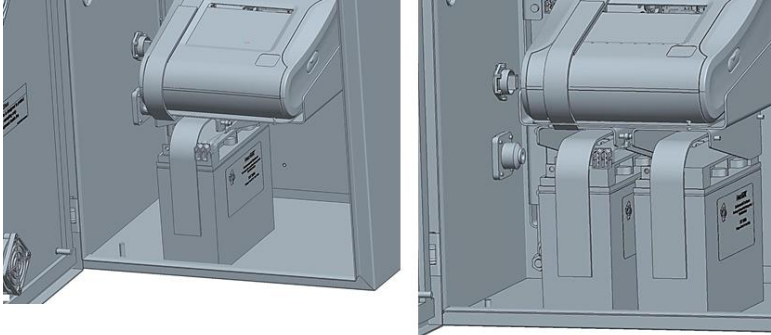

Figure 21: Placement and Connection of the Batteries
- Place batteries in case and attach battery leads to the battery cable. If using one battery, place on left side. If using two batteries, place on both sides as shown in Figure 21.